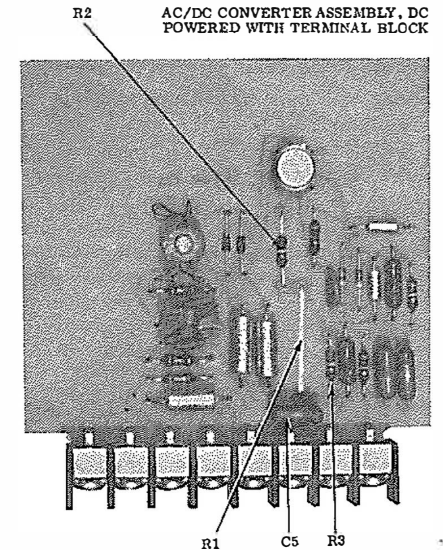

Figure 6. Component Location
- Install resistors and capacitor specified in Table I to attain desired range. See figure 6 for component location. Note that these components should be installed in the upper printed circuit board.